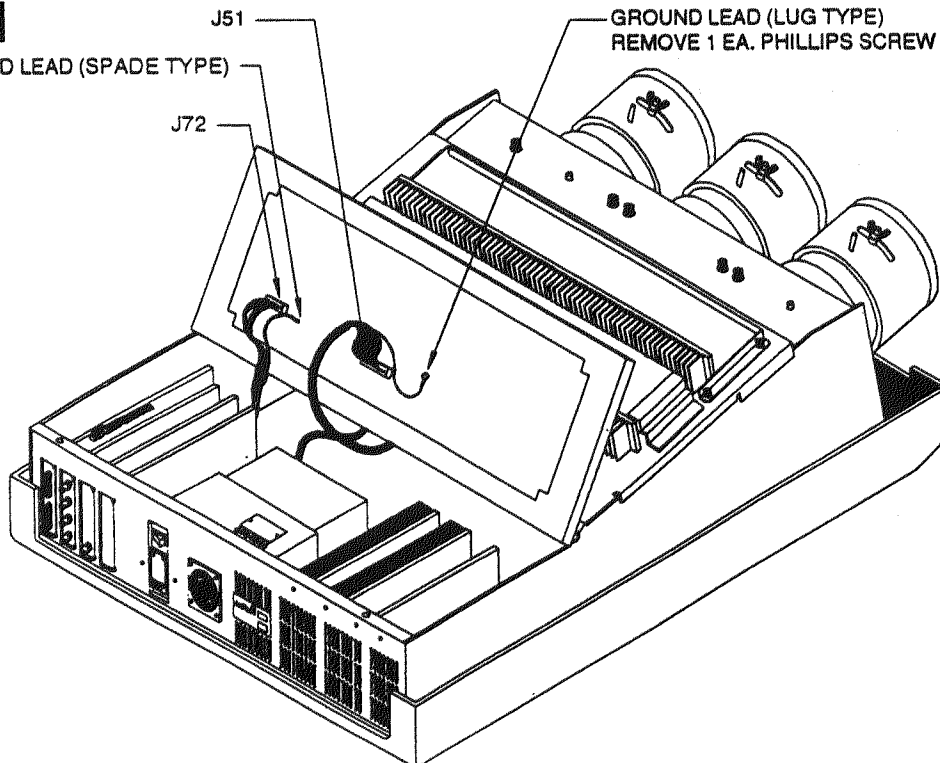

FIGURE 10-21A. 3300 REGISTRATION REPLACEMENT.
- STEP 4. On the underside of the Registration assembly, disconnect J51, J72, the ground lead (via spade lug, and the ground lead secured by the 4-40 phillips screw. See Figure 10-21A and 10-21B.